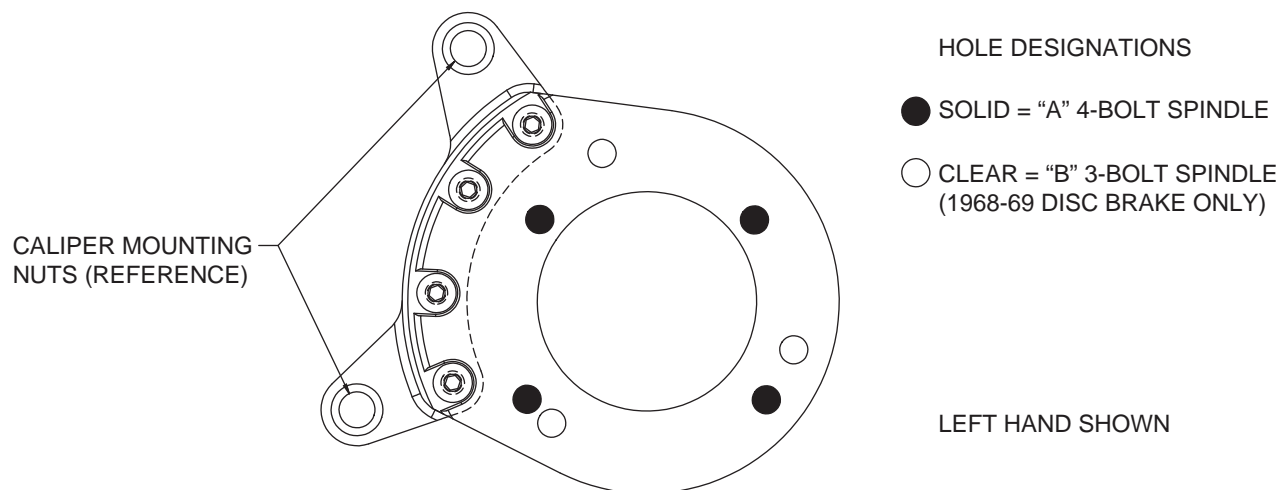
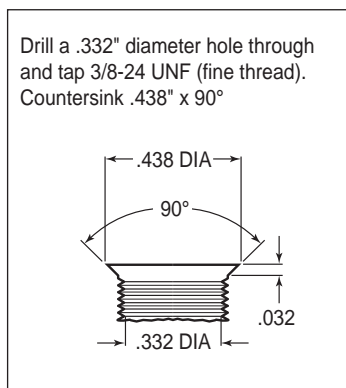
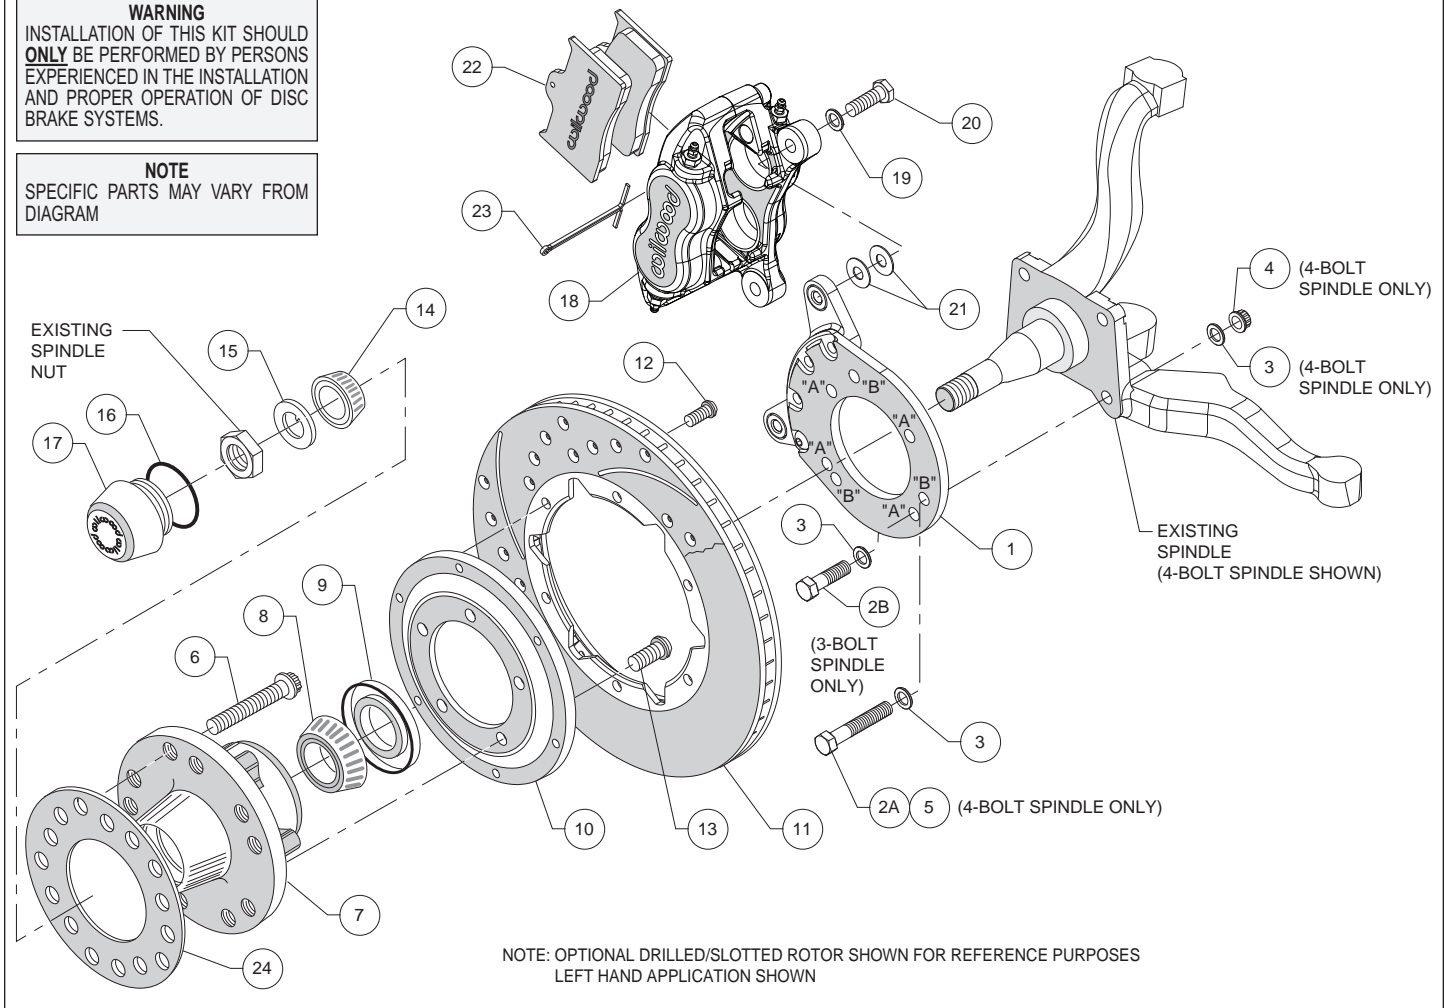
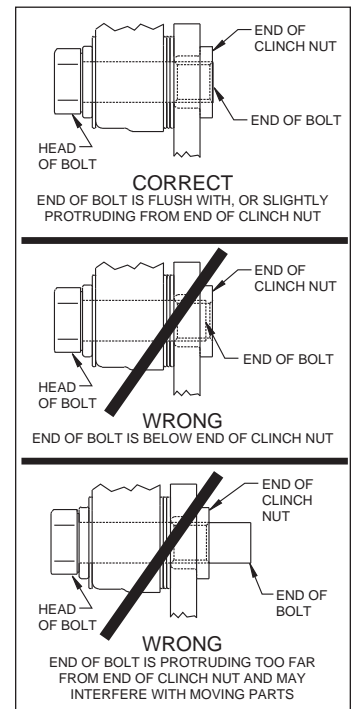

Figure 1. Wilwood Caliper Mounting Bracket
Figure 2. Drill and Tap Detail
Figure 4. Typical Installation Configuration
Figure 5. Clinch Nut Engagement Diagram
This kit has been designed for use with both three and four bolt spindle configurations. The only difference is in how the Wilwood caliper mounting bracket is installed. The same bracket is used for both configurations; only the 1968-69 disc brake spindle utilizes three mounting holes while all other spindles use the four mounting holes (see Figure 1). For your convenience we have supplied bolt kits for both applications (see parts list and Figure 4 as necessary). Use the bolt kit that is applicable to your vehicle and disregard the other one.
Using the caliper mounting bracket as a template (refer to Figure 1 as necessary), locate and verify the three original holes on the spindle that need to be modified. Drill a .332" diameter hole through all three holes, then tap 3/8-24 UNF (fine thread). Countersink the holes to .438" diameter x 90°, as shown in Figure 2.
Assembly Instructions (numbers in parenthesis refer to the parts list, and Figure 2 on the preceding pages): **CAUTION:** All mounting bolts must fully engage clinch nuts. Be sure to check that all bolts are either flush or protruding through flanged side of clinch nut after shimming, Figure 5.
•**NOTE:** This kit uses the same mounting bracket (1) for both the three and four bolt brake spindles. The 4-bolt version, Photo 1, uses four mounting bolts (designated "A"), while the 3-bolt version, Photo 2, uses three (designated "B"). Refer to Figures 1 and 4 for the basic installation position of the bracket and the "A" and "B" reference designations (not physically marked on the brackets).
For 4-Bolt Spindle: Align bracket, using the four "A" holes, to the face of the spindle and attach using bolts (2A and 5), washers (3), and lock nuts (4), as shown in Figure 2. Ensure that the flanged heads of the clinch nuts in the bracket are facing outboard, Photo 1. Torque lock nuts to 30 ft-lb.
For 3-Bolt Spindle (1968-69 Disc Brake): Align bracket, using the three "B" holes, to the face of the spindle and attach using bolts (2B) and washers (3), as shown in Figure 2. Finger tighten. Ensure that the flanged heads of the clinch nuts in the bracket are facing outboard, Photo 2. Remove bolts one at a time, apply red *Loctite*® 271 to threads, and torque to 40 ft-lb.
- Install wheel studs (6) into the hub (7), Photo 3. Torque to 77 ft-lb. **NOTE:** There are two five lug patterns in the hub (5 x 4.50 and 5 x 4.75). Ensure the correct hub stud pattern is being used to fit the wheel application.
- Pack the large inner bearing cone (8) with high temperature disc brake bearing grease (available from your local auto parts store) and install into the backside of the hub (7), Photo 4.
- Install the grease seal (9) by pressing into the backside of the hub (7), flush with the end of the hub, Photo 4.
- Orient the rotor (11) and the rotor adapter (10) as shown in Figure 2 and Photo 5. Attach the rotor to the adapter using bolts (12). Using an alternating sequence, apply red *Loctite*® 271 to the threads, and torque to 25 ft-lb.
- Mount the adapter/rotor assembly (10/11) to the hub (7) using bolts (13), as shown in Figure 2 and Photo 6. Using an alternating sequence, apply red *Loctite*® 271 to the threads, and torque to 45 ft-lb.
- Pack the small outer bearing cone (14) with high temperature disc brake bearing grease and install into hub (7). Slide the hub/rotor assembly onto the spindle. Secure using spindle washer (15) and OEM spindle nut, Photo 7. Adjust bearings per OEM specifications. Install saved OEM nut lock (if any) and a new cotter pin (not included).
- Screw dust cap (17) into hub (7), Photo 8. Friction created by the o-ring (16) on the dust cap keeps it from unscrewing. **NOTE:** The O.D. of the existing OEM spindle washer may be larger than the I.D. of the dust cap not allowing it to seat against the hub face. Therefore, use the spindle washer (15) supplied with the kit instead of the OEM washer.
- NOTE:** Please reference the caution statement at the beginning of the assembly instructions. Mount the caliper (18) onto the caliper mounting bracket (1) using bolts (20) and washers (19), as shown in Figure 2. Initially place two .035" thick shims (21) on each bolt between the caliper and the bracket, Photo 9. Temporarily tighten the mounting bolts and view the rotor (11) through the top opening of the caliper. The rotor should be centered in the caliper, Photo 10. If not, adjust by adding or subtracting shims between the bracket and the caliper. Always use the same amount of shims on each of the two mounting bolts. **NOTE:** The end of each bolt must be flush with or slightly protruding from the head of the clinch nut, as shown in Figure 5. If necessary place spare shims between washer (19) and caliper